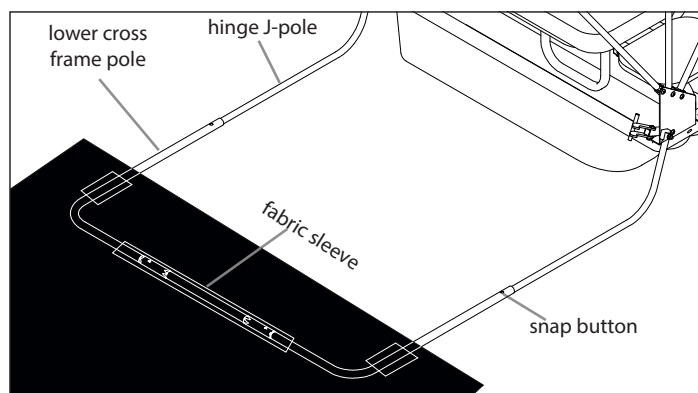

FIGURE 8
14. Unfold the skin and locate the Rapala® logo near the zippered door, which is in the front of the sled. With the outer part of the shelter skin laying face down locate the (3) fabric sleeves on the ground in the bottom front, right side and left side of the shelter. Slide the lower frame support pole through the (3) fabric sleeves. **SEE FIGURE 8**
15. Insert a hinge J-Pole from each hinge into the lower cross frame pole. Push the snap button inward to allow lower cross frame pole to slide over hinge J-poles. Snap lower cross frame pole into place for the in-use position. **SEE FIGURE 8**